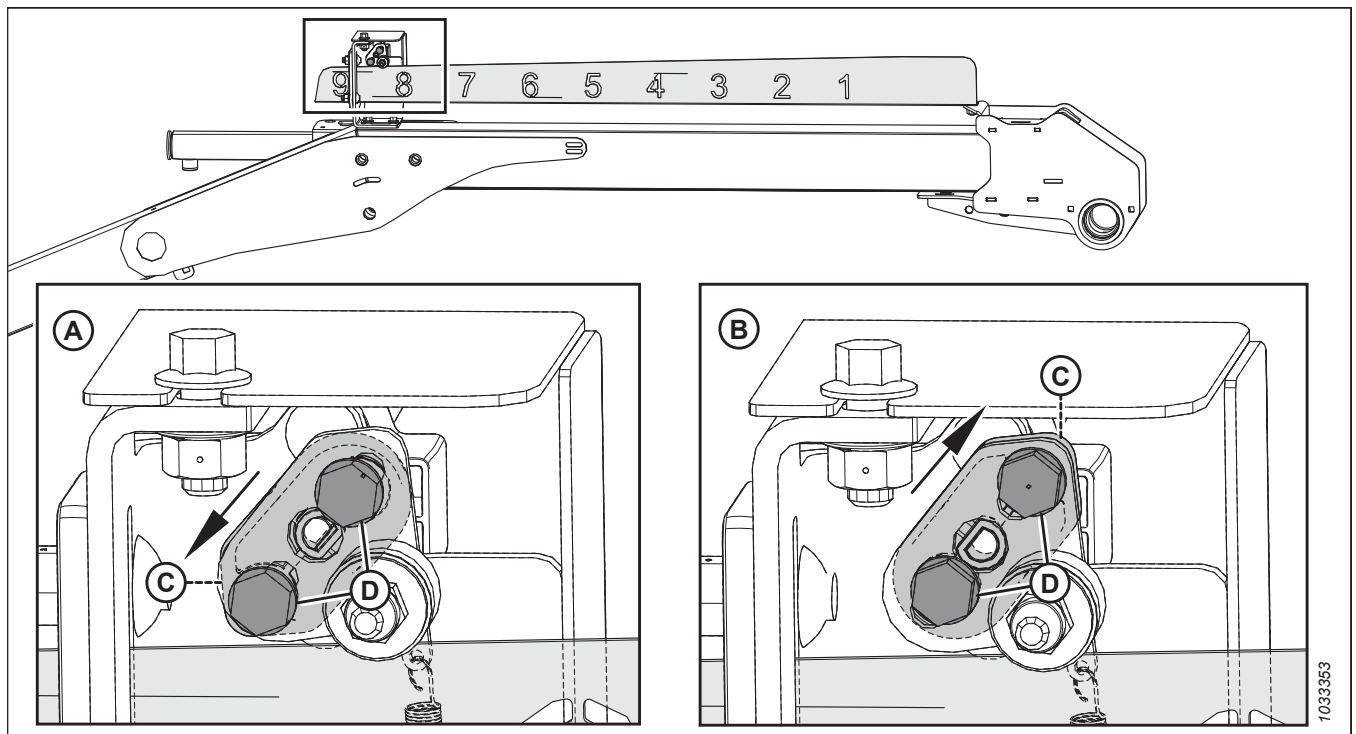

Figure 9.5: Sensor Arm Configurations
3. Check the orientation of sensor arm (C) and hardware (D). Ensure that the sensor arm is configured properly for your machine; refer to Figure 9.5, page 421.